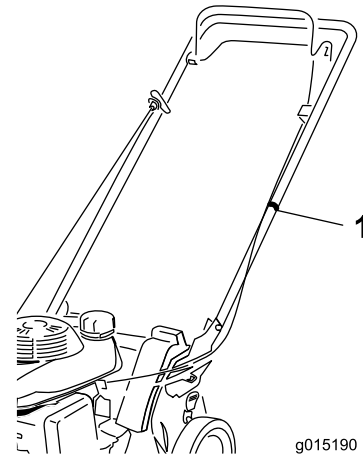

**Figure 7**
4. Route the self-propel drive cable down the inside of the handle, thread the cable through the opening on the left hand side of the housing, and attach the cable end (Figure 7) (Self-propel model only).